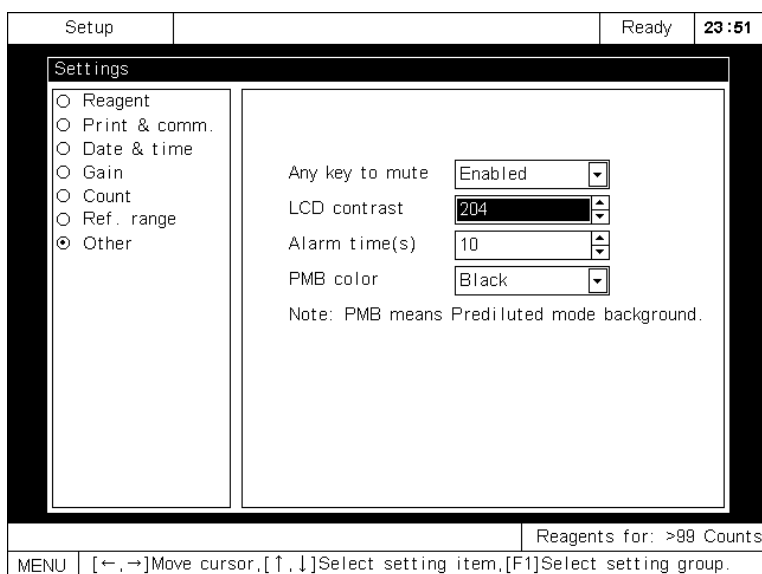

Figure 7-37 Setting LCD contrast
- Press [] or [] to move the cursor to **LCD contrast**, as Figure 7-37 shows.